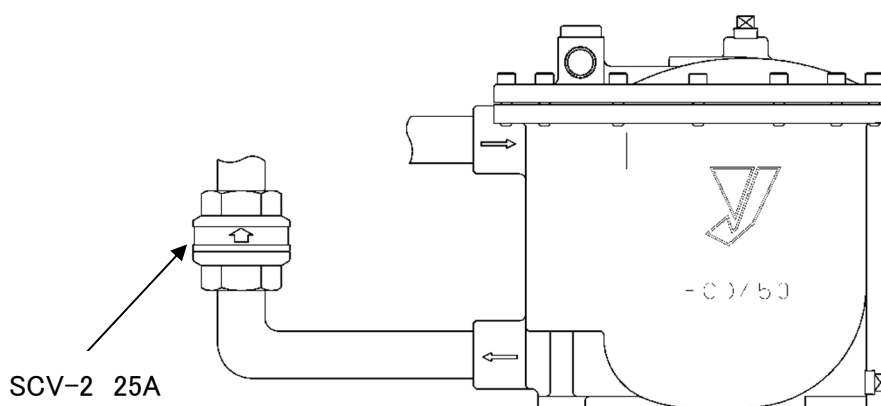

Fig. 7 (Example)
- (4) Connect pipes securely.
- (5) Please use the union joint for the connection of piping. (Refer to 4.1 Example of piping diagram.)
- (6) Do not apply any shocks by the water hammer or the like. Do not use the on-off valve before or after the product.
- (7) Do not disassemble the product unless necessary.
- (8) Attach the strainer before the condensate inlet and motive steam port. (Refer to 4.1 Example of piping diagram.)
- (9) Attach the check valve (SCV-2 or SCV-3 25A) to keep the discharge capacity at the condensate outlet side. Note the direction of the check valve. (See Fig. 7.)